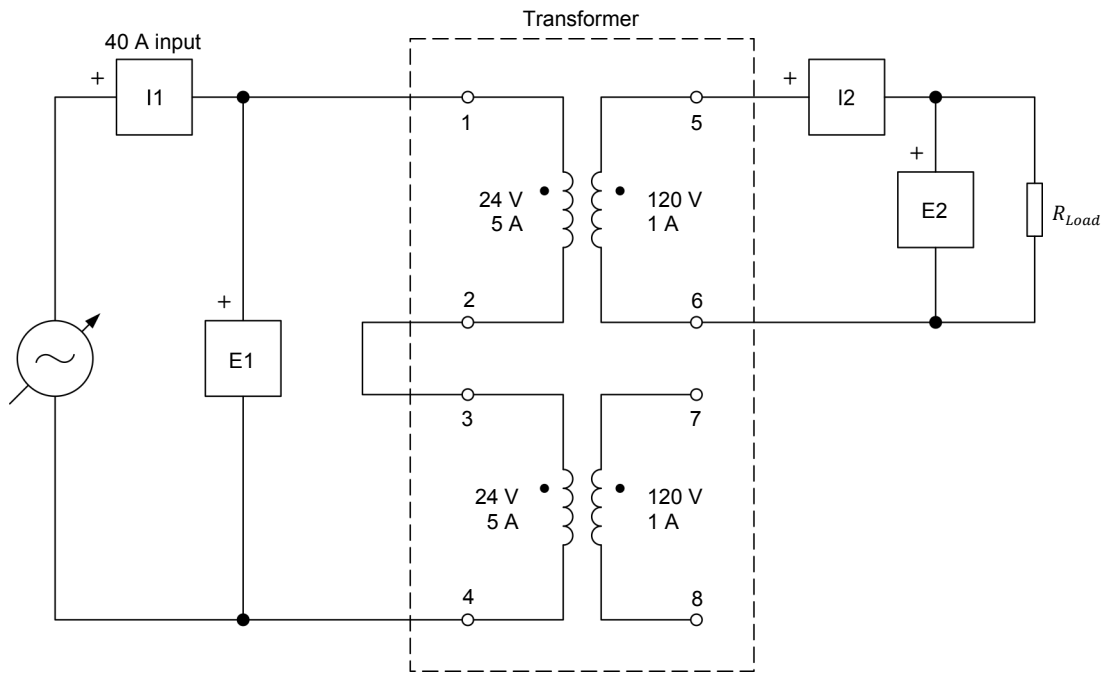

Figure 19. Step-up transformer connected to a resistive load.
28. Connect the equipment as shown in Figure 19.